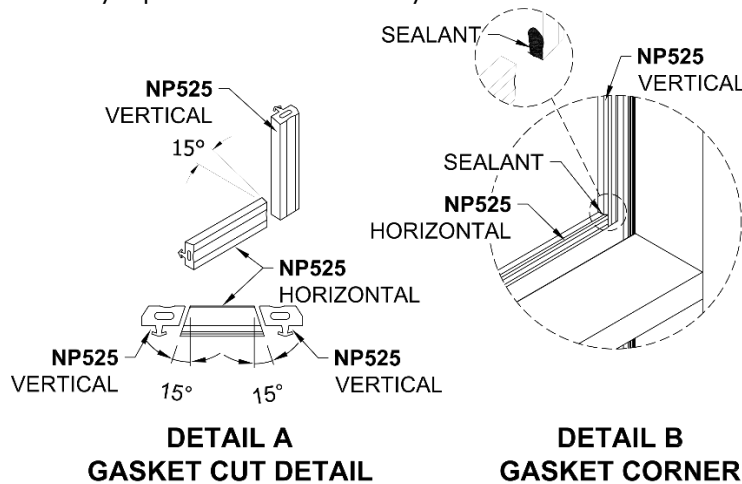

Figure 43: Fixed Gasket Installation
15.2.2 Verify the horizontal **NP525** Fixed Gasket is cut to specification in *Section 3.0* to provide adequate compression. Miter the ends at a 15° angle, as shown in *Figure 43, Detail A*, to assure a proper seal.
15.2.4 Insert the Fixed Gasket around the perimeter, verticals first and the horizontals second. Verticals run-through at corners. See *Figure 43* for a detail of the Gasket corner.
15.2.5 Pull back the horizontal gasket at the corners and apply Sealant to the connection between the horizontal and vertical gaskets. Reference *Figure 43, Detail B*, for a visual. Clean any squeeze out immediately.